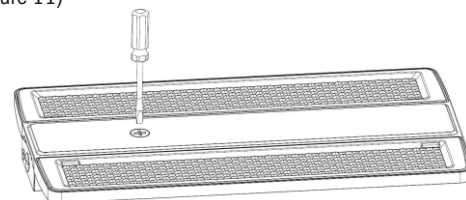

FIG. 11
- 1 Remove the 1/2" plug from the front of the fixture using a screwdriver. (Figure 11)